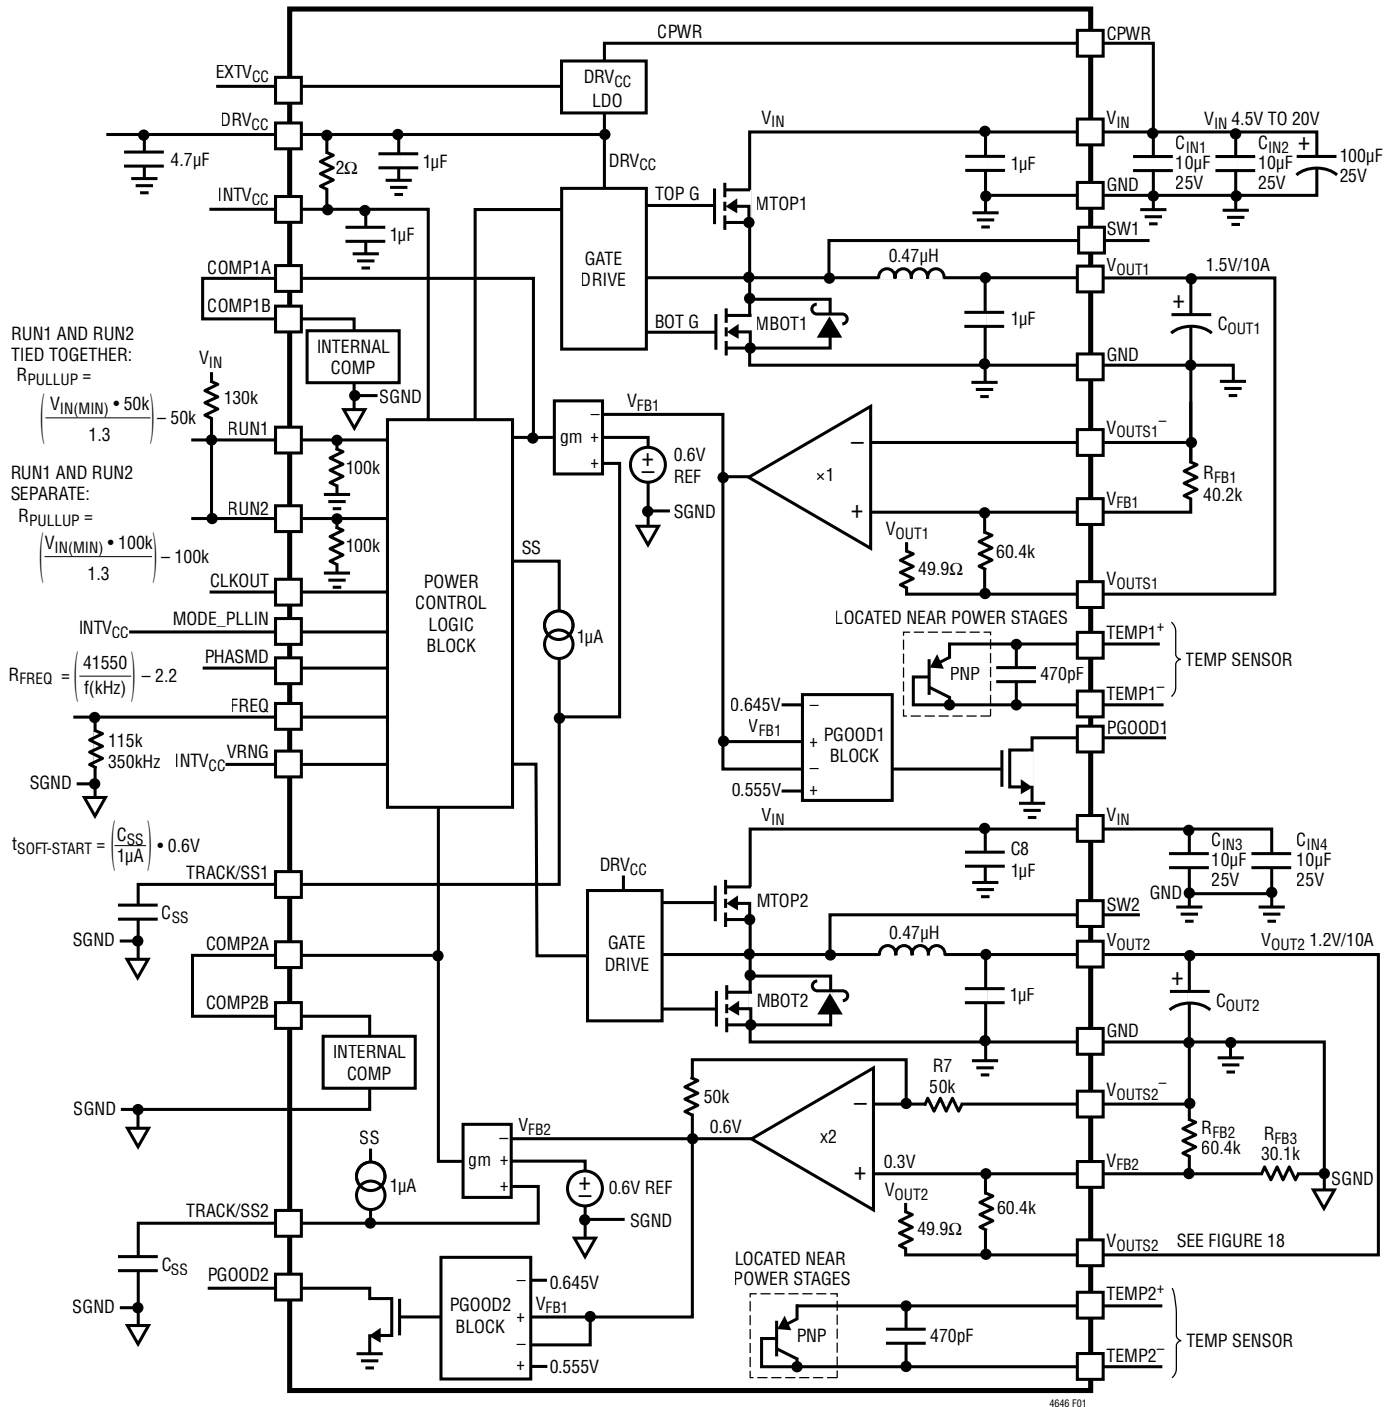

Figure 1. Simplified LTM4646 Block Diagram
**VFB1 (G4):** This pin is the + input to a unity gain differential amplifier. This pin is connected to VOUTS1 with a 60.4k precision resistor internal. Different output voltages can be programmed with an additional resistor between VFB1 and VOUTS1 pins. The differential amplifier is feeding back the divided down output voltage from a remote sense divider network to compare to the internal 0.6V reference. In 2-phase single output operation, tie the VFB1 pin to INTVCC. See Figure 1 and Applications Information section for details.
**VFB2 (E4):** This pin is the + input to a non-inverting gain of two amplifier utilizing three resistors in the feedback network to develop a remote sense divider network. This pin is connected to VOUTS2 with an internal 60.4k precision resistor. The VOUT2 voltage is divided down to 0.3V then gained back up to 0.6V to compare with the internal 0.6V reference. This technique provides for equivalent remote sensing on VOUT2. See Figure 1 and Applications Information section for details.
RUN pin will turn on the DRVCC, and turn on the INTVCC path for operation. See Figure 1 and Applications section.
**DECOUPLING REQUIREMENTS**  $T_A = 25^\circ\text{C}$ . Use Figure 1 configuration.
The PWM controller has an internal 0.6V reference voltage. As shown in Figure 1, a 60.4k internal feedback resistor connects between the  $V_{OUTS1}$  to  $V_{FB1}$  and  $V_{OUTS2}$  to  $V_{FB2}$ . It is very important that these pins be connected to their respective outputs for proper feedback regulation. Each channel has a 49.9 $\Omega$  resistor connected from  $V_{OUTS1}$  and  $V_{OUTS2}$  to  $V_{OUT1}$  and  $V_{OUT2}$ , respectively. This is used to protect the output if  $V_{OUTSn}$  is open or left unconnected. The  $V_{OUT1}$  output voltage will default to 0.6V with no feedback resistor on  $V_{FB1}$ . Adding a resistor  $R_{FB1}$  from  $V_{FB1}$  pin to  $V_{OUTS1}^-$  programs the output voltage: